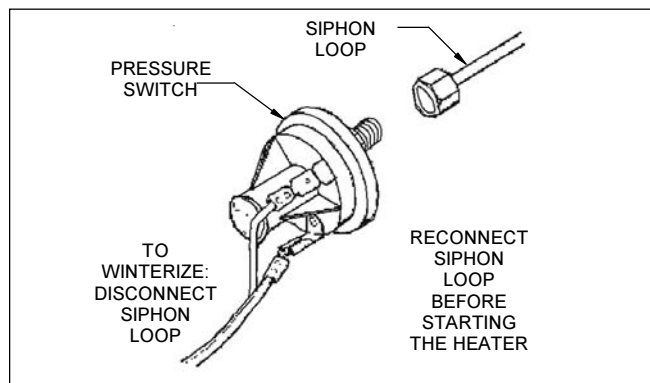

FIGURE 24. WINTERIZING THE PRESSURE SWITCH
5. Disconnect the copper tubing from the pressure switch fitting (see Figure 24).
1. Attach the pressure switch fitting to the copper tubing (see Figure 24).